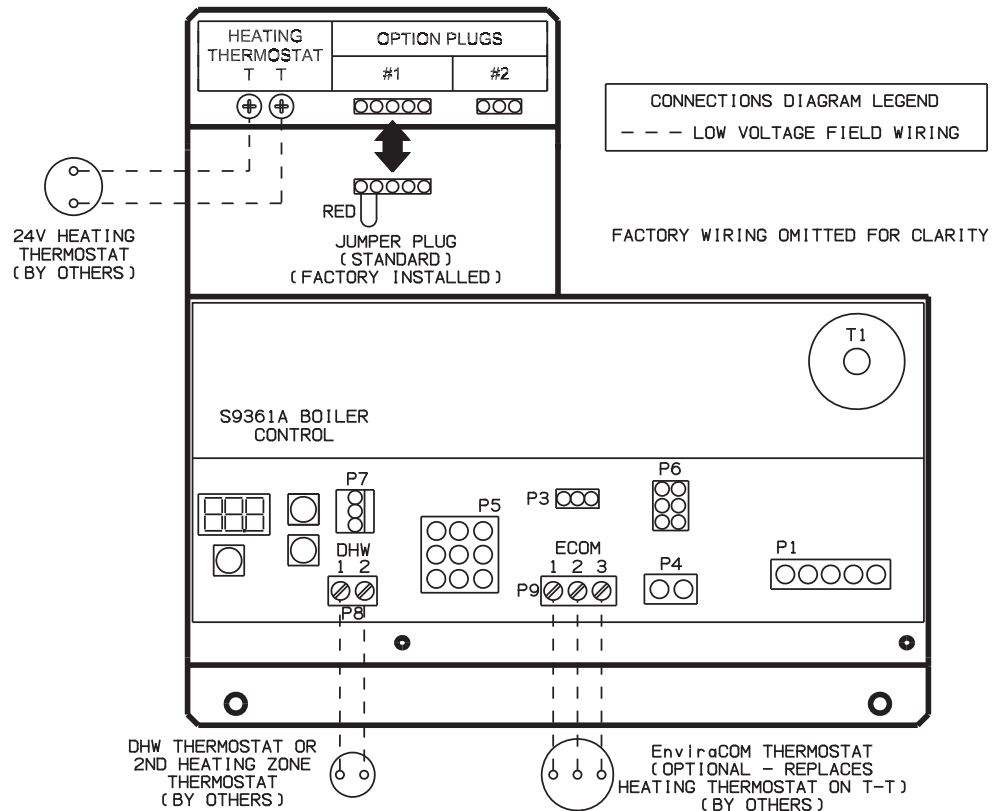

FIGURE 9.1: LOW VOLTAGE FIELD CONNECTIONS
- a) Heating Circulator - Pumps water upon a call for heat (CH) from the thermostat terminals T-T shown in Figure 9.1 or from an EnviraCom thermostat. This output is factory wired to the “circulator whip” mounted on the boiler.
- b) DHW Circulator - Pumps boiler water to an indirect water heater upon a call for domestic hot water (DHW) from the DHW thermostat terminals shown in Figure 9.1. This output can also be used for a second space heating zone. See Section XI of this manual for additional information.
2. Low Voltage Connections – Low voltage field connections are located as shown in Figure 9.1 and are as follows:
Note: When Option Plug #1 is not used, the factory supplied jumper plug shown in Figure 9.1 must be installed for boiler to operate.